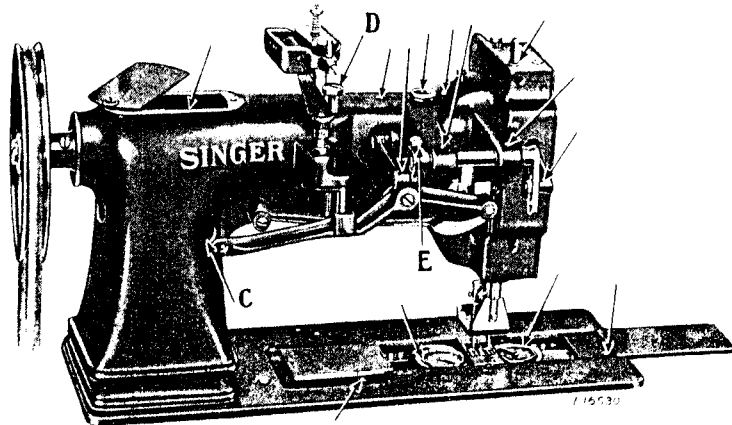
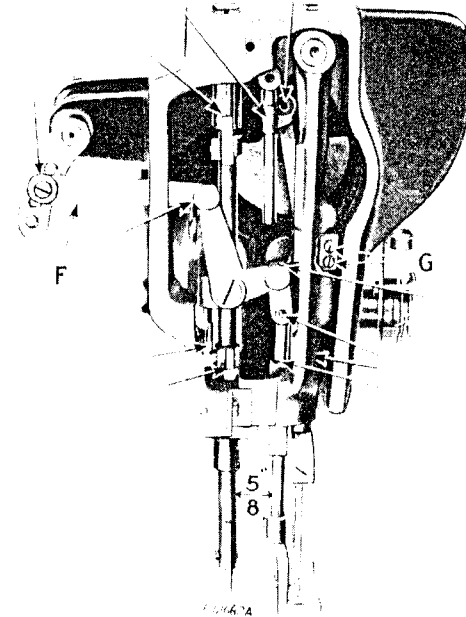
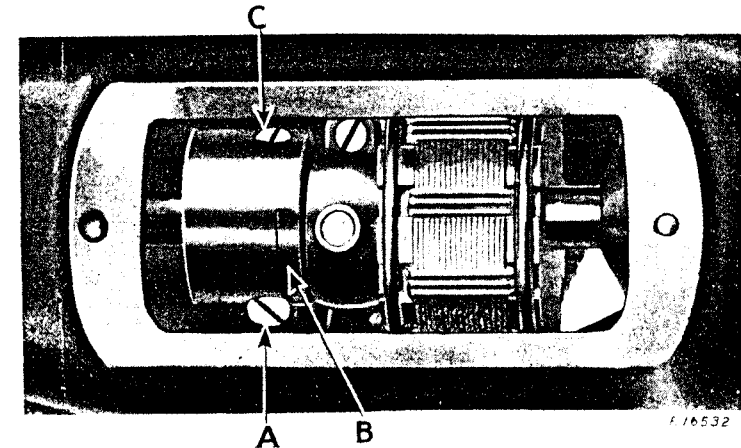

Fig. 3. Rear View of Machine
Fig. 4. End View of Machine Showing Oiling Points
Fig. 17. Feed Eccentric. Arm Cap Removed.
The length of stitch is regulated by the feed eccentric (B, Fig. 17) located on the arm shaft.
To lengthen the stitch, loosen screw (C, Fig. 17) turn the feed regulating screw (A, Fig. 17) over toward the left. To shorten the stitch, turn this screw (A, Fig. 17) toward the right. When the desired length of stitch is obtained, securely tighten screw (C).
To increase the pressure of the presser feet on the material, turn the thumb screw (D, Fig. 3), at the back of the machine, downward. To decrease the pressure, turn this thumb screw upward.
In case the needle bar is not correctly set, loosen the needle bar connecting stud pinch screws (G, Fig. 4) and place the needle bar in correct position as directed above, then retighten the screws (G).
Adjust the feed eccentric (B, Fig. 17) so that there is no feed movement of the needle bar frame, then set the needle bar so that when it rises 1/8 inch from its lowest position, the points of the sewing hooks will be about 1/16 inch above the eyes of the needles.
The distance between the vibrating presser bar and lifting presser bar, after adjusting the feed eccentric (B, Fig. 17) so that there is no feed movement of the needle bar, should be 5/8 inch as shown in Fig. 4.
If the distance between the vibrating presser bar and the lifting presser bar is more or less, insert a screwdriver in the hole at (C, Fig. 3) at the rear of the machine and loosen the clamp screw which holds the needle bar rock frame rock shaft. While this screw is loose, the needle bar frame can be moved forward or backward to the required distance. A piece of metal of the correct width may be used to determine the correct distance. When making this adjustment be sure to see that the feed eccentric (B, Fig. 17) is set so that there is no feeding movement of the needle bar. When the adjustment has been made, securely tighten the clamp screw at C.
The height of lift of the pressers is adjustable by moving the link (F, Fig. 4) to any of the four holes in the rock shaft crank. The maximum lift is secured with the link in the bottom hole. The amount of lift should be regulated according to the thickness of the material being sewn. The feet should lift just high enough to clear the material.
Adjust the feed eccentric (B, Fig. 17) so that there is no feeding motion.